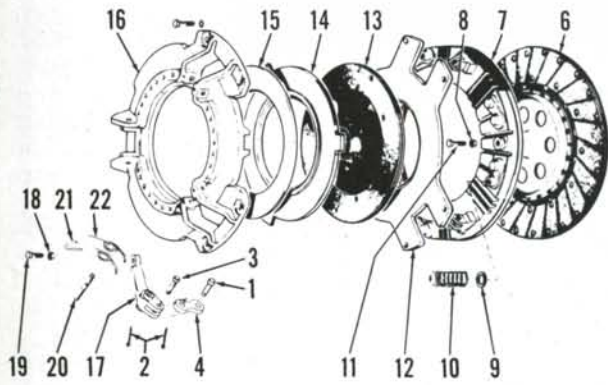

Fig. 169—Exploded view of dual clutch assembly used on Models MF275 and MF290. Refer to Fig. 168 for legend.
150. OVERHAUL. Prior to disassembling clutch, punch mark clutch cover (16—Fig. 168 or Fig. 169), pressure plate (14), drive plate (12) and pressure plate (7) so components can be reassembled in their original positions if reused.
To disassemble clutch unit shown in Fig. 169, remove pivot pin retainer clips (21). Drive out release lever pivot pins (20) and remove lever torsion springs (22). Loosen forcing nuts on "T" bolts to relieve spring tension. Remove "T" bolts and separate components of clutch.
**NOTE:** A new transmission clutch disc (6—Fig. 168 or Fig. 169) must be installed to correctly adjust release lever height, even if old disc will be reused. Make the adjust-